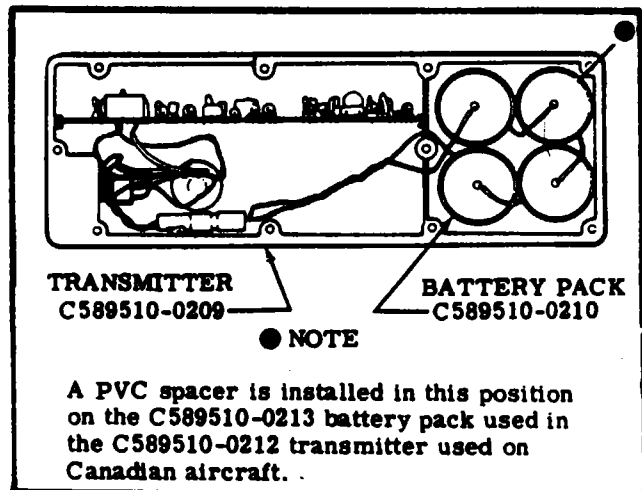

Figure 16-17. Lithium 4 Cell
- Place new battery-pack in the transmitter with four batteries as shown in the case in figure 16-17.